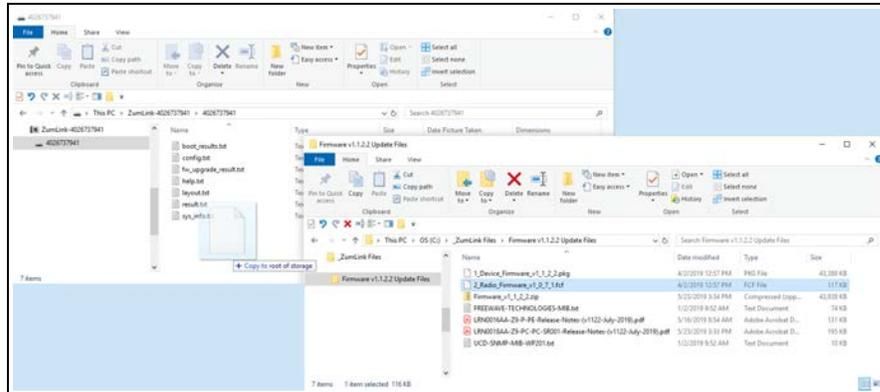

Figure 27: Drag and Drop the **.fcf** file to the **ZumLink** window
10. Drag and drop the **.fcf** file on to the **ZumLink** window. **Figure 27**